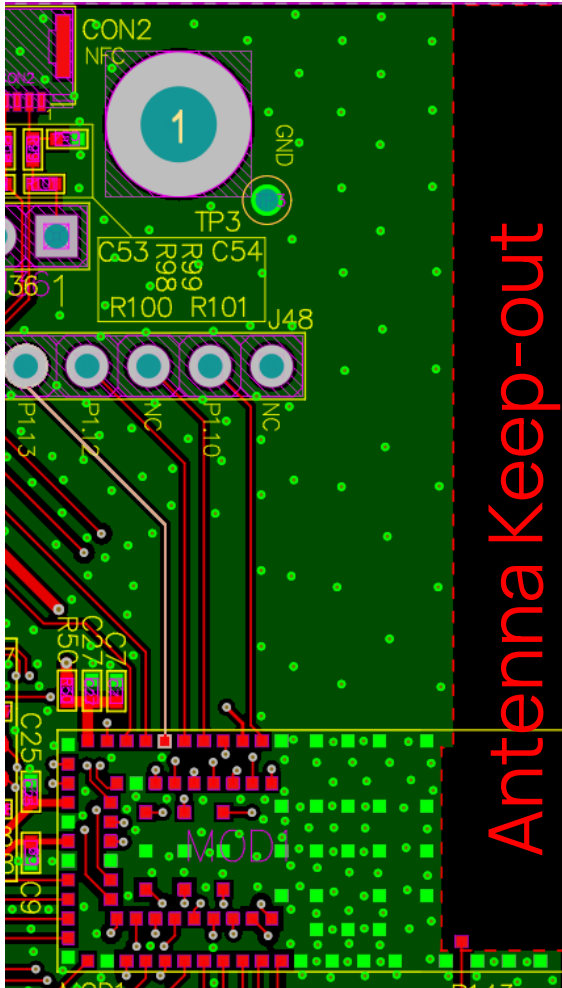

Figure 13: PCB trace Antenna keep-out area on the edge (and off center) of the BL5340PA development board for the 453-00068 module.
- The BL5340PA development board (453-00068-K1) has the 453-00068 module on the edge of the board (not in the corner). The antenna keep-out area is defined by the BL5340PA development board which was used for module development and antenna performance evaluation is shown in Figure 13, where the antenna keep-out area is ~4.7 mm wide, ~39.17 mm long; with PCB dielectric (no copper) height ~1 mm sitting under the 453-00068 PCB trace antenna.
- Host PCB land pattern and antenna keep-out for the BL5340PA applies when the 453-00068 is placed in the edge of the host PCB preferably in the edge center. Figure 13 shows an example.